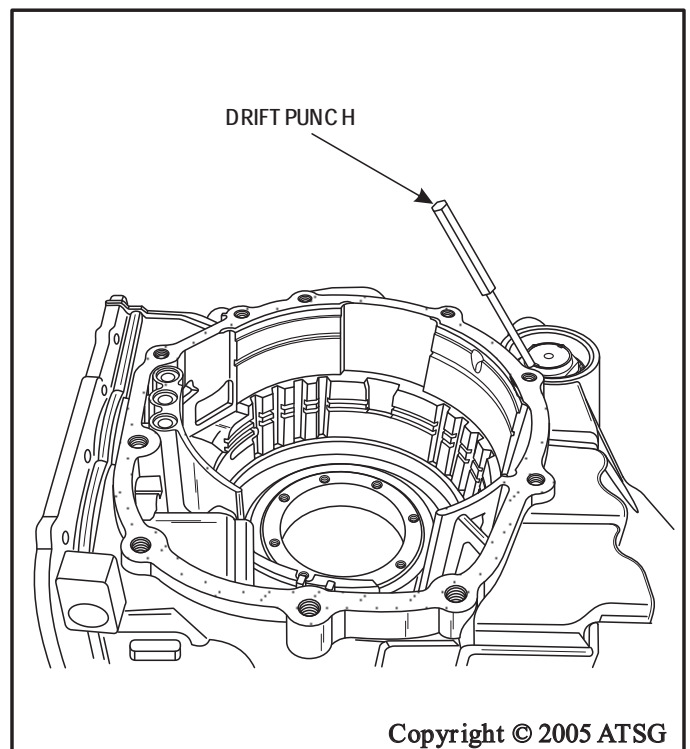

Figure 157
14. After the turning torque is correct, stake the pinion retaining nut in two places, as shown in Figure 157.